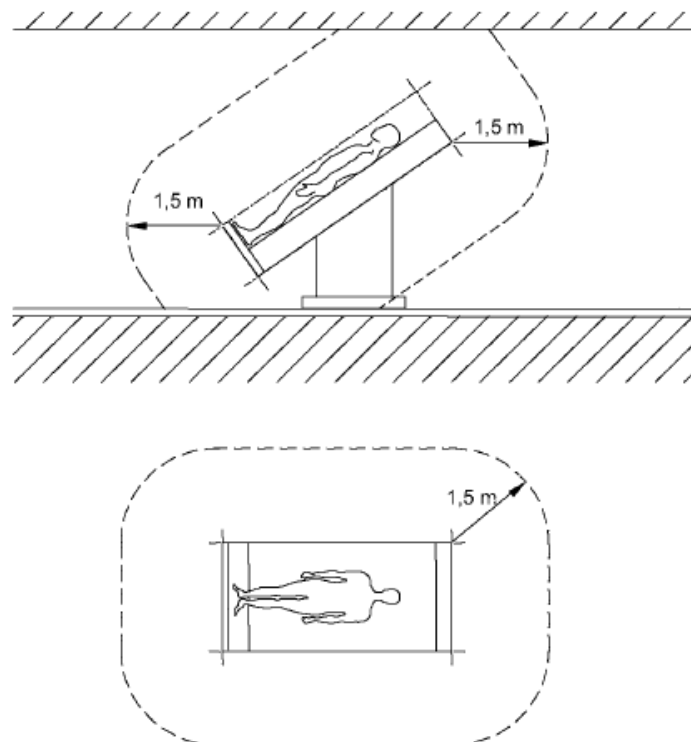

Fig. 1 Minimum extent of the PATIENT ENVIRONMENT
- Using a flat-nosed tool and taking care not to damage the paint on the top covers, remove the bottom covers of the downpipes ①, these are press-fitted. See figure 1.
- Now move the upper covers of the main body ②, which are also press-fitted, by hand, first in the direction of the main body and and, once the side wall has been cleared, by pulling them upwards. See figure 1.